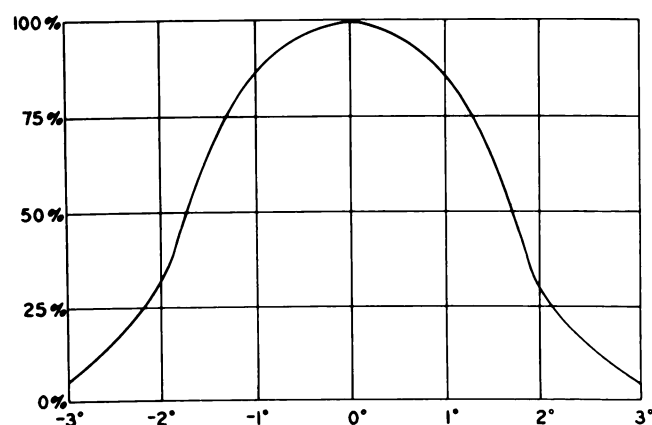

Figure 3C.—Relative energy in the reflected radar signal at various angles off the center of the beam.
11. The directivity of an antenna is frequently specified by the angles at which the reflected power is one-half of the maximum at  $0^\circ$ . These angles are called half-power points. What are the approximate half-power points of the antenna whose directivity is plotted in figure 3C?
12. Assume that a radar that has the directivity indicated in figure 3C is beamed at two targets with the same range. What is the smallest angle of separation between the targets that will permit the radar to see them as two separate targets?